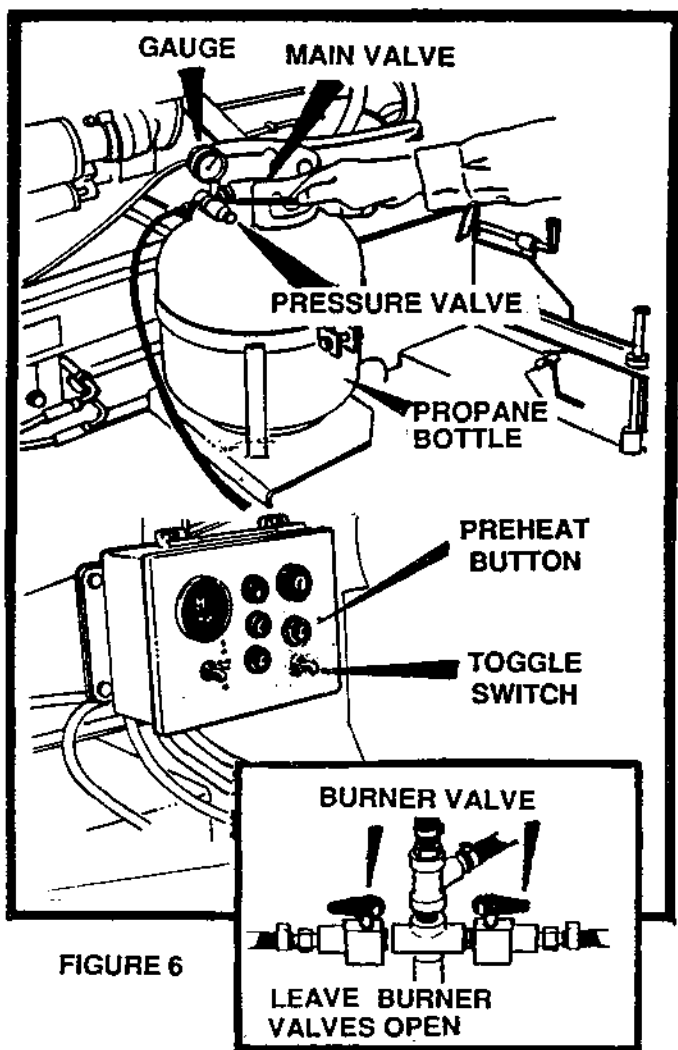

FIGURE 6
2. Adjust pressure valve in or out until gauge reads between 6 and 8 pounds as shown in figure 6.
To light automatic burners, turn propane main valve on, push preheat button for 5 seconds, turn burner toggle on, when screed has heated, switch off. TURN PROPANE BOTTLE OFF DAILY. See figure 6.